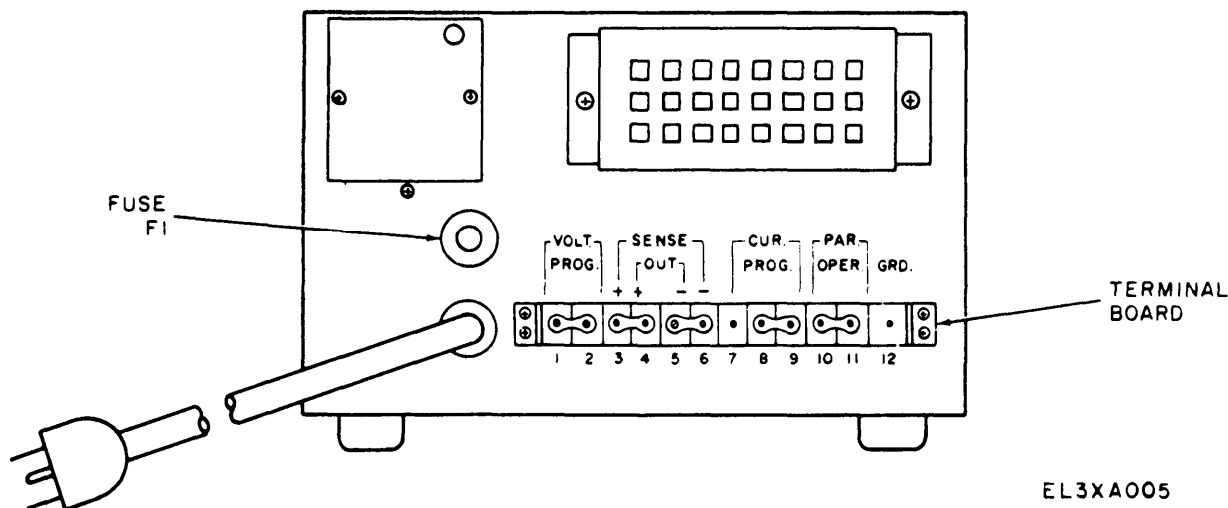

Figure 2-3. Power Supply PP-3940A/G, Rear Panel.
b. See that a 5.0-ampere fuse is installed in the fuse holder at the rear of power supply (fig. 2-3).
c. See that all terminal board screws are present and links are tightly connected between terminals 1 and 2, 3 and 4, 5 and 6, 8 and 9, and 10 and 11 on rear terminal board (fig. 2-3).
b. Rear Panel Controls (fig. 2-3).